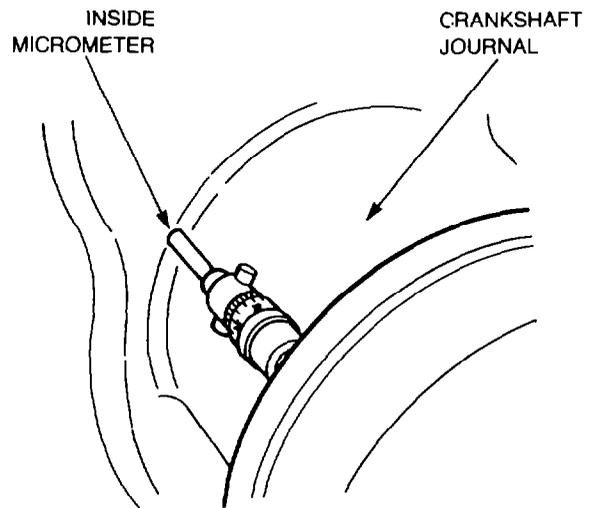

Figure 29 — Measuring Crankshaft Journal Width
- at. Measure and record the width of the crankshaft journals (see Fig. 29), using a suitable inside micrometer (refer to Table 7).